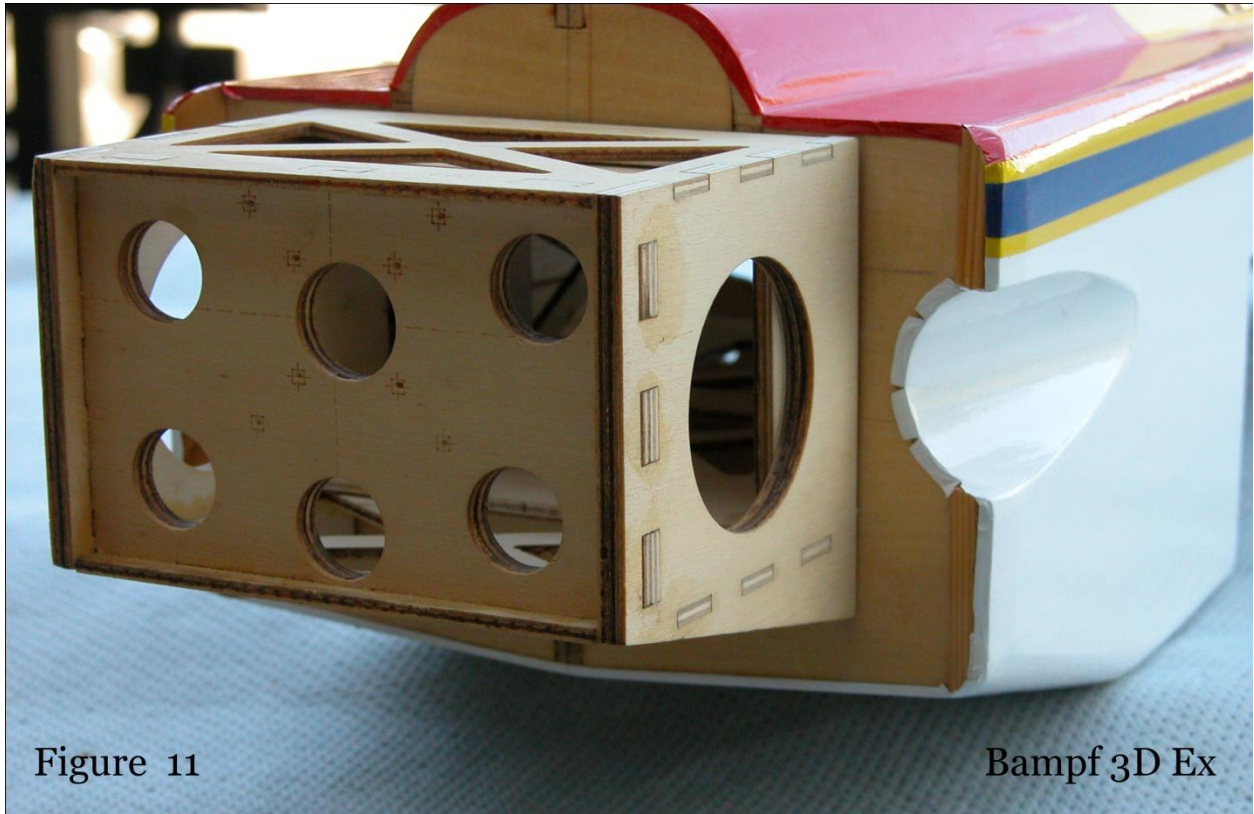

Figure 11
- f. Be sure there is no glue at the intersection of the Battery Box and the firewall's front surface. The Motor Mount must fit over the Battery Box and against the Firewall. (Figure 11)
- g. The Motor Mount slips over the Battery Box and firmly against the Firewall. (Figure 11)